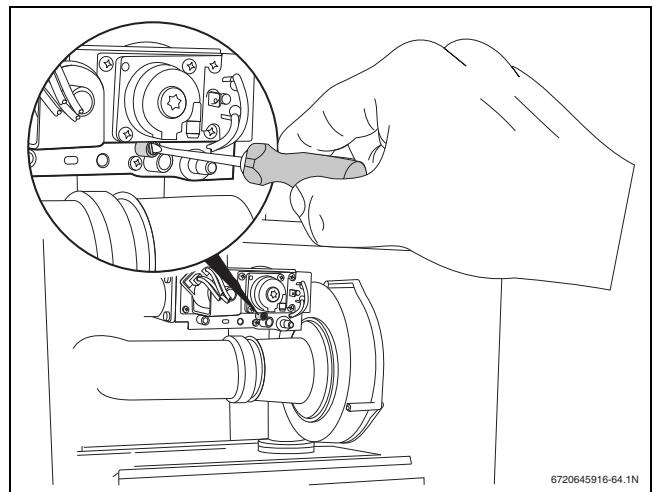

Fig. 68 Adjusting flue gases CO₂ emissions (at full load)
- If necessary: open the boiler door and adjust the CO₂ percentage to 9.3% by means of the adjustment screw on the gas valve with the red sleeve (→ fig. 68) and close boiler door again. Note the set value in table 27 on page 53.